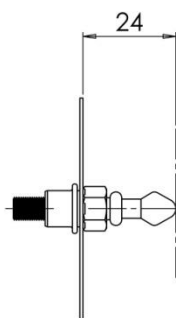

Figure 1
- b) Replace stud and adjust as detailed in Figure 1 before tightening locknut.